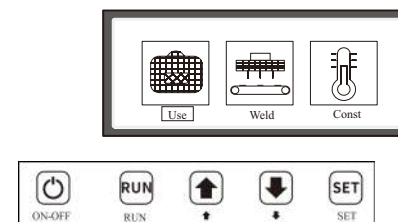
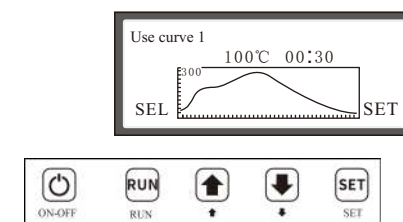
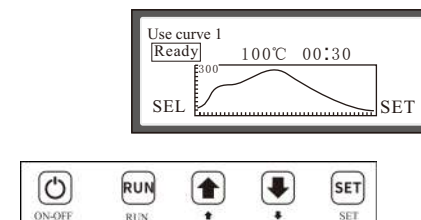
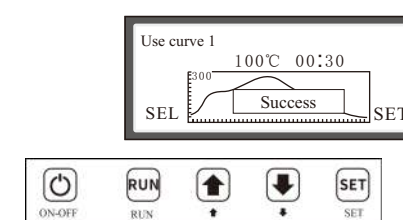

Fig. 17
Fig. 18
Fig. 19
Fig. 20
- (1) After pressing “POWER SUPPLY”, “PRODUCTION” turns into highlighted state. Press “PAGE UP” button to turn “PRESET” into highlighted state, which means being selected as shown in Fig. 17. Press “RUN” button to confirm entry as shown in Fig. 18. Press “PAGE UP” button and “PAGE DOWN” button to conduct the setting of “Lead Soldering 1”, “Lead Soldering 1”, “Lead Soldering 1” and “Lead-Free Soldering”.
- (2) After selecting “Lead Soldering 1”, press “SET” button to conduct setting as shown in Fig. 19. Press “SET” button to switch “Heating Zone”, “TEMPERATURE” and “TIME”. Press “PAGE UP” button and “PAGE DOWN” button to conduct the setting of “TEMPERATURE” and “TIME”. Press “RUN” button to exit as shown in Fig. 18. Press “RUN” button again to select as shown in Fig. 20. After saving the preset is successful, it will automatically switch to main interface of “PRESET”, “PRODUCTION” and “CONSTANT TEMPERATURE”, as shown in Fig. 17. After entering “PRODUCTION” interface, the time and temperature values are preset values.